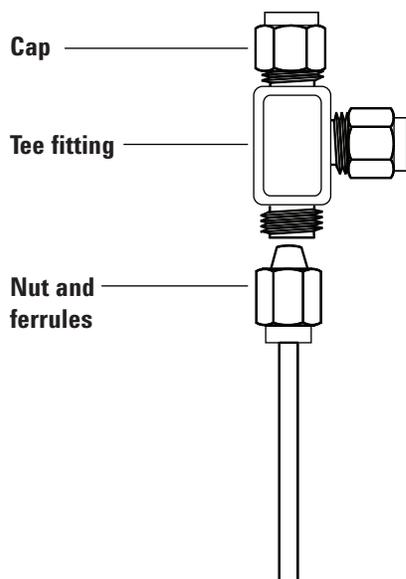

Figure 21. Swagelok tee
- 1 Cut the tubing where you want to install the Tee. Connect the tubing and Tee with a Swagelok fitting. See Figure 21.